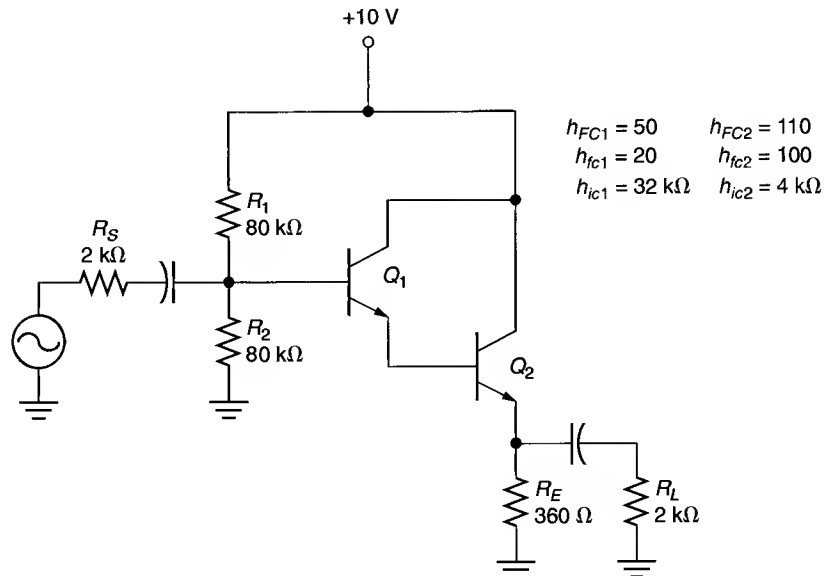

FIGURE 10.27
16. Determine the values of I_E and R_{IN1} for the amplifier in Figure 10.27.
18. Determine the values of Z_{in} and Z_{out} for the circuit shown in Figure 10.27.
20. Determine the value of A_i for the circuit shown in Figure 10.27.
22. Perform a “quick” analysis on the amplifier in Figure 10.27.
31. The circuit shown in Figure 10.27 has a dc base voltage (Q_2) of approximately 0 V. Discuss the possible causes of the problem.